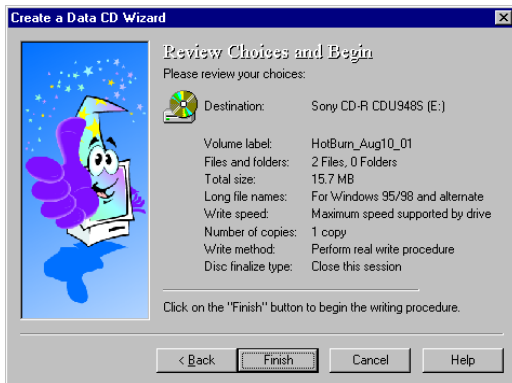

Figure 10
11. At the Review window, the process is listed on the screen. Click on the Finish button to start the actual burn-in process. The status window will appear to view the actual process. Once complete, the "Operation was successful" message will appear in the Information field at the bottom of the window. See Figure 10 and 11 below.